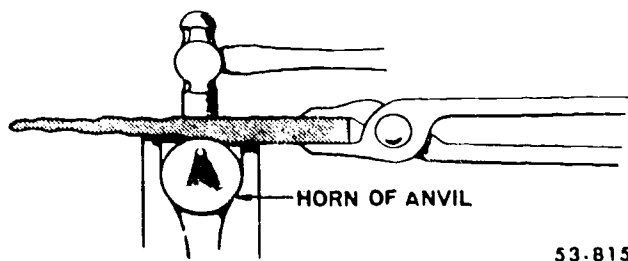

Figure 6-2. Drawing flat stock.
**Drawing.** To draw is to work a piece of metal to increase its length or width, or both, and to reduce its cross section. To increase both length and width, hammer the metal over the flat face of the anvil. To increase the length only, hammer the metal over the anvil horn, as shown in figure 6-2. The horn acts as a blunt wedge to spread the metal and force it lengthwise. Round stock can be drawn out to a point tip by the method shown in figure 6-3. Forge it square first, then octagonal, and then round again. Forge it with as few blows as possible. Try to do all the forging without reheating.